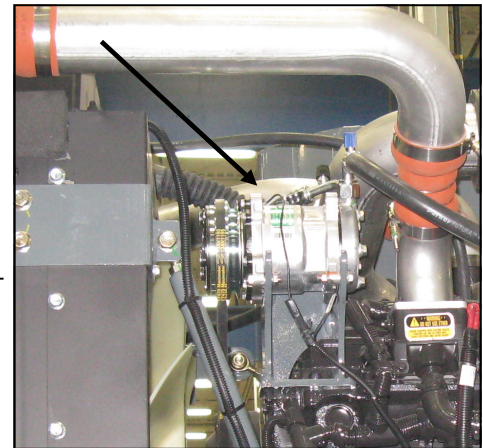

FIG 7.4B-2
**TYPE**– The cab on your sprayer is equipped with a R-134a air conditioning system (fig. 7.4B-2).